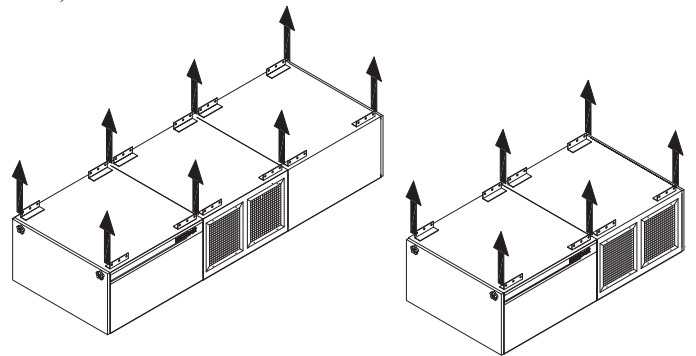

FIG 1
3. Support the unit at each end and where modules are coupled together. 8 points of support for 3 module system, 6 points of support for 2 module system (Fig 1).